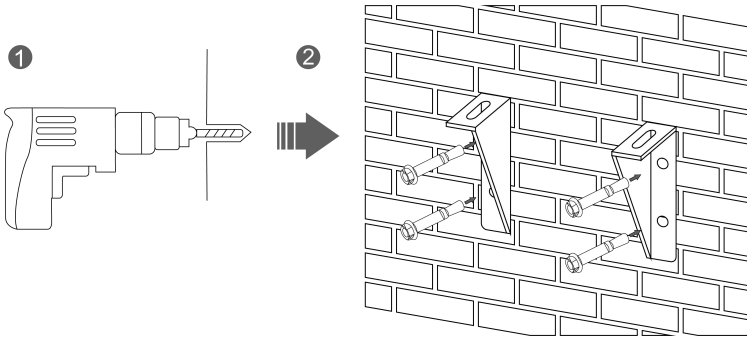

Figure 4-3
- b. Choose the recommend drill head (as shown in Figure 4-3) to drill 4 holes on the wall,100mm-110mm deep.
- c. Use a hammer to secure the support to the wall, and install the expansion bolt in the hole, as shown in Figure 4-3.